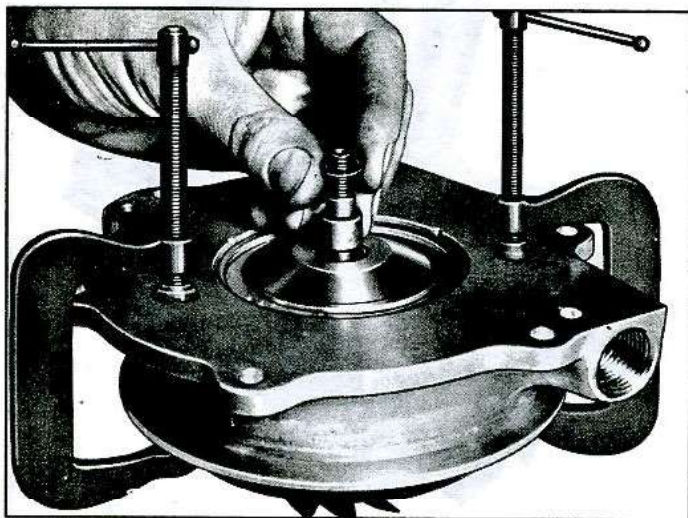

Fig. 52—Shaft Sleeve and Shim Installation
15. Install the shaft sleeve (fig. 52), impeller shim (determined in Step 8f) and start the impeller on the turbine shaft.